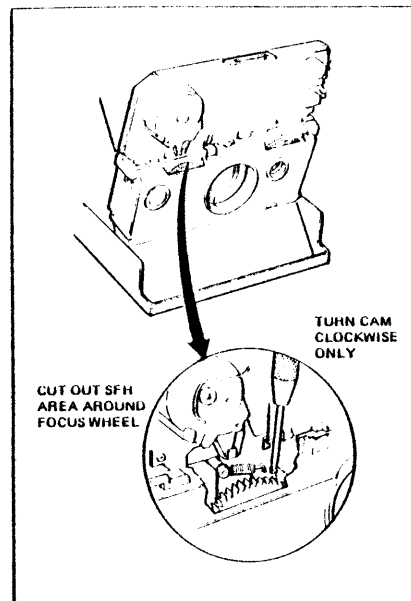

FIGURE 2-6. USING MODIFIED SFH FOR CAM FOLLOWER INTERCEPTOR ADJUSTMENT
**NOTE:** A test shutter housing can be made using an old defective shutter front housing. Cut out the area around the focus wheel area as shown in Figure 2-6. This cut out area allows you to turn the slotted eccentric cam in the cam follower assembly with a jeweler's screwdriver.